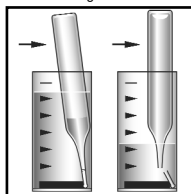

Figure 3
For CHEMetrics photometers, follow the **Setup and Measurement Procedures** in the operator's manual. For spectrophotometers, set the wavelength to 430 nm. A sealed ZERO ampoule is supplied in this kit for zeroing when the sample is colorless and not turbid. For improved accuracy with colored or turbid samples, Sample Zeroing Accessory Pack, Cat. # A-0503 is recommended. Using the sample cup, snap the tip of the A-0503 ampoule in the sample (see figure 3 below). Invert the ampoule to mix. Dry the ampoule and use it in place of the supplied ZERO ampoule to zero the instrument.
3. Place the Vacu-vial ampoule, tip first, into the sample cup. Snap the tip. The ampoule will fill leaving a bubble for mixing (fig. 3).